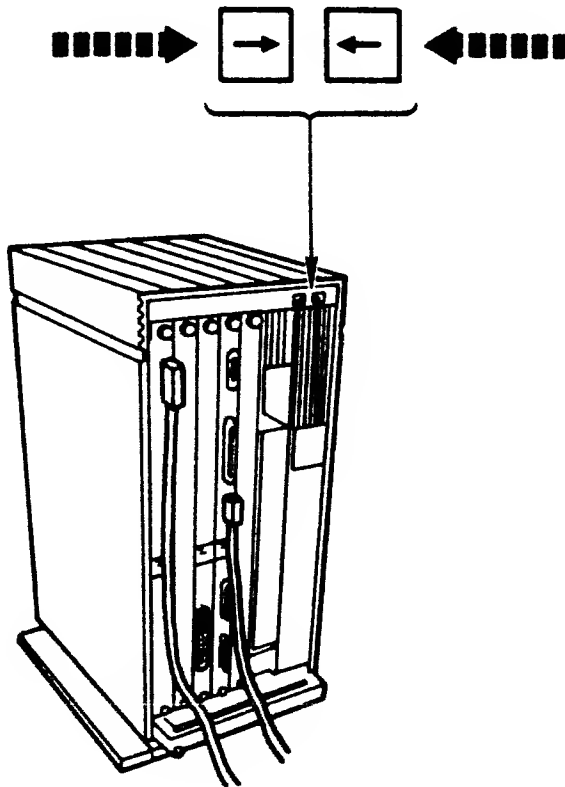

Figure 2-15. Opening the Processor Unit's Rear Cover
7. Open the processor unit's rear cover by squeezing the latches and swinging the cover down (Figure 2-15); an inner wall is exposed.